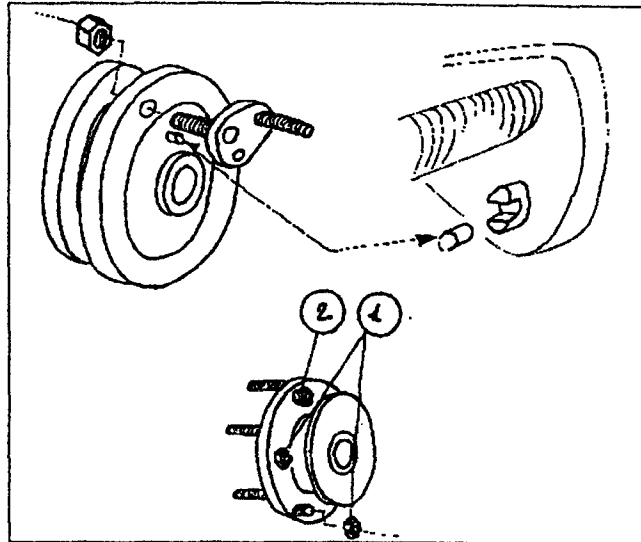
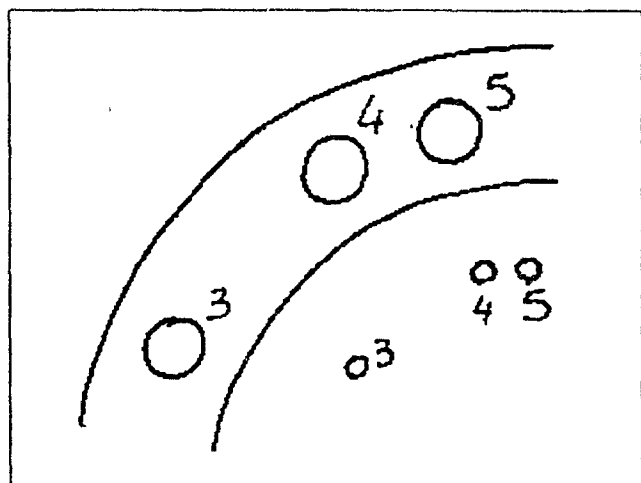

Fig.34
Fig.35
- B. Remove all of the nuts (#1 Fig.34) on the back of the flange except the zinc plated self-locking nut (#2 Fig.34).
- C. Remove all the studs, except the reference stud. Reassemble the studs on the flange by introducing the threaded pins into the holes marked with the number of the desired configuration (3,4 or 5). Ensure that the guide groove is engaged in the matching pin (Fig. 34). Look at the numbers stamped on the flange to match hole and pin (Fig.35).